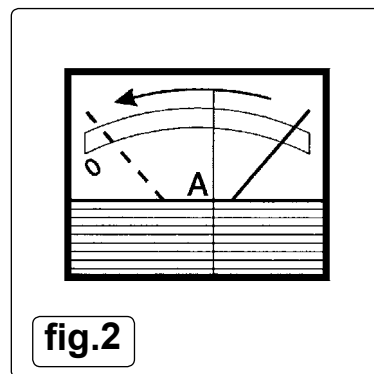

fig.2
- 4.3.2. Check the current delivery to the battery by reading the ammeter on the front of the battery charger (fig.2). During charging the pointer on the ammeter will slowly decrease (move to the left) according to the capacity and condition of the battery (see fig. 2, dial face may vary according to model of charger).